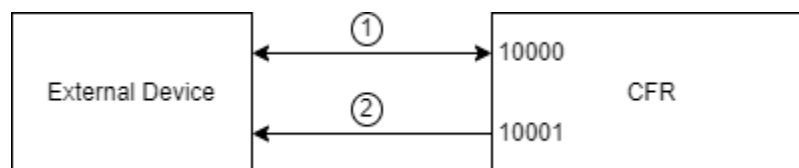

Figure 1: Overview of communication channels.
Figure 1 shows the communication architecture of the CFR Control Server. Channel (1) allows the external device to send commands and receive replies from the CFR. Channel (2) allows the CFR to feedback position of the CFR and of each motor on a regular interval.